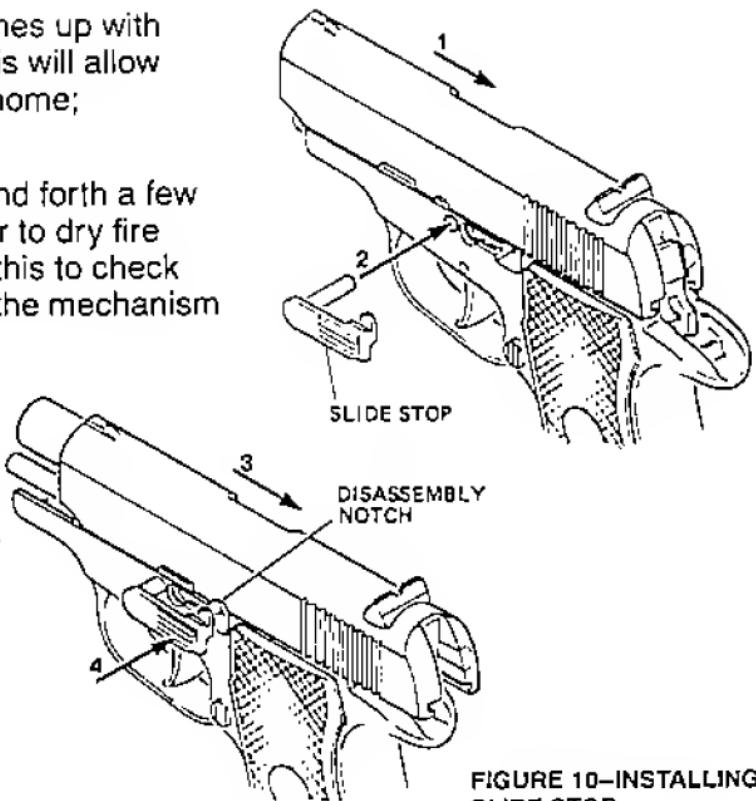

FIGURE 10—INSTALLING
until the disassembly notch lines up with rear part of the slide stop. This will allow slide stop to be pushed fully home; see Figure 10.
**To assemble the magazine**, place spring correctly oriented, i.e., with loop uppermost pointing forward, into the magazine body. Compress spring and insert thin rod as for dismantling. Place follower in magazine as illustrated (See Figure 10), take up spring tension, remove thin rod and allow spring to reassert its influence on the follower.